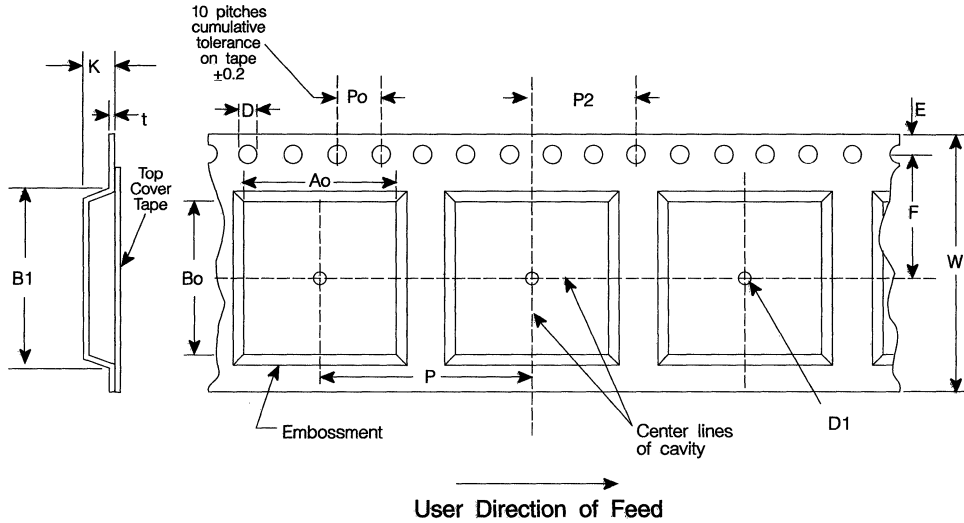

Figure 1
2. Dimensions (Refer to Figure 1)